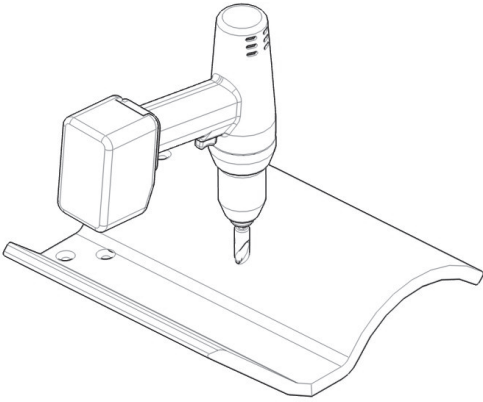

Figure 9.
13. Drill a 3/8" hole through the tile at the marked location. See Figure 9.